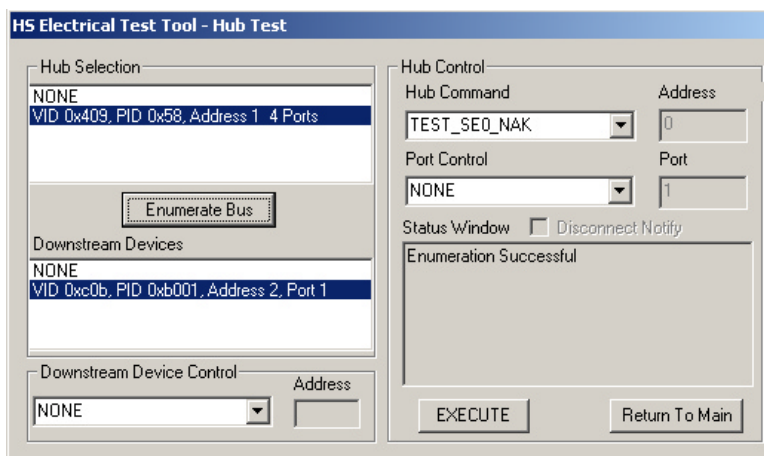

Figure 33. Hub and DS Device Enumerated
3. Click the [Enumerate Bus] button once. (Figure 33)